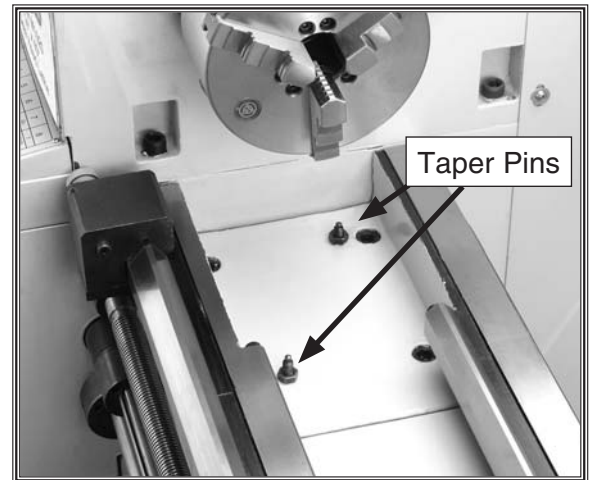

Figure 32. Lathe gap.
1. Find the two taper pin nuts located on the bed of the gap (see **Figure 32**).